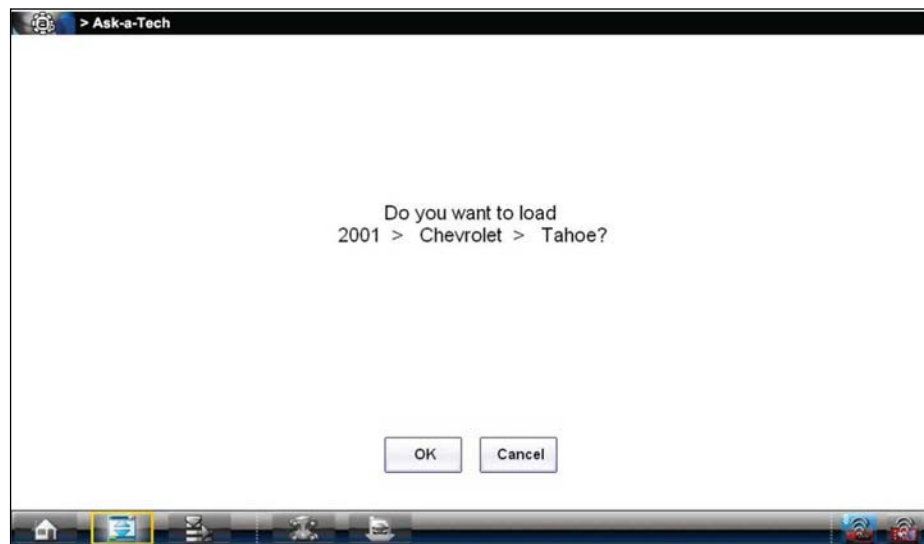

Figure 15-11 Active Vehicle Confirmation Message
2. A vehicle identification sequence begins if there is no active vehicle. Follow the screen prompts to select the year, make, model, submodel, engine, and system of the vehicle (Figure 15-11).